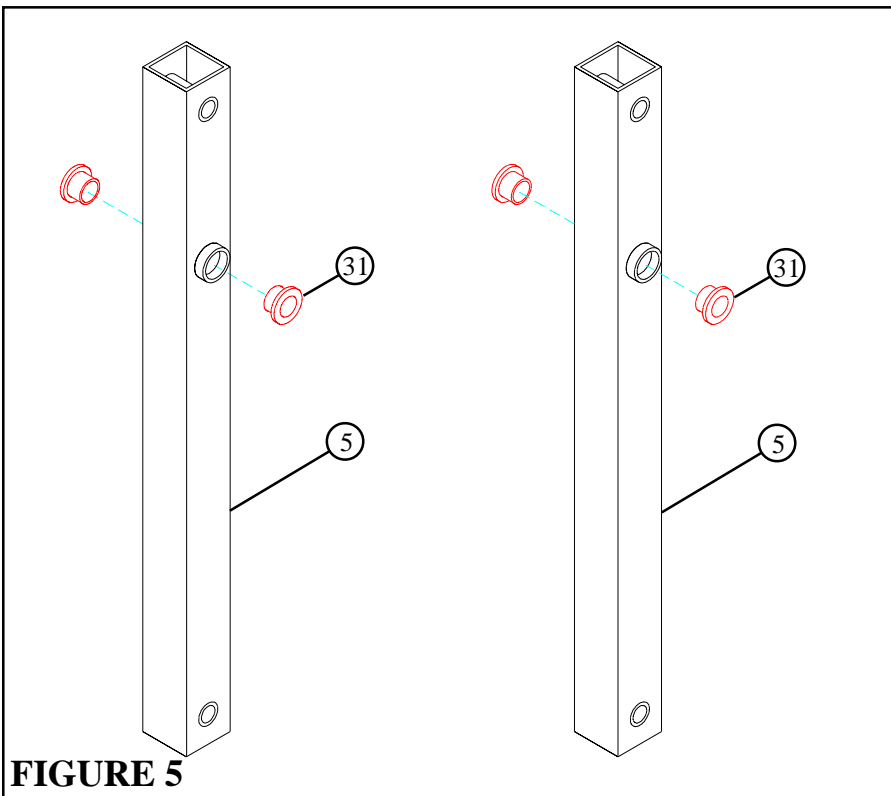

**FIGURE 4**
- **CAREFULLY** slide the ADJUSTMENT TUBE (7) over into the SEAT FRAME (2) and engage the SPRING PIN into one of the adjustment holes. See FIGURE 4.